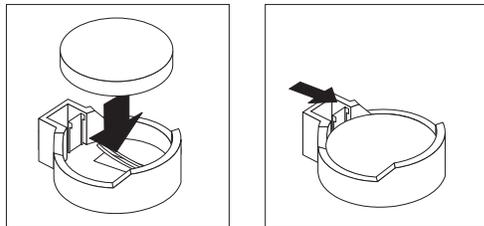

Figure 34. Inserting the new battery
- b. Press the battery down into the socket until it clicks under the battery clip, as shown in Figure 34.